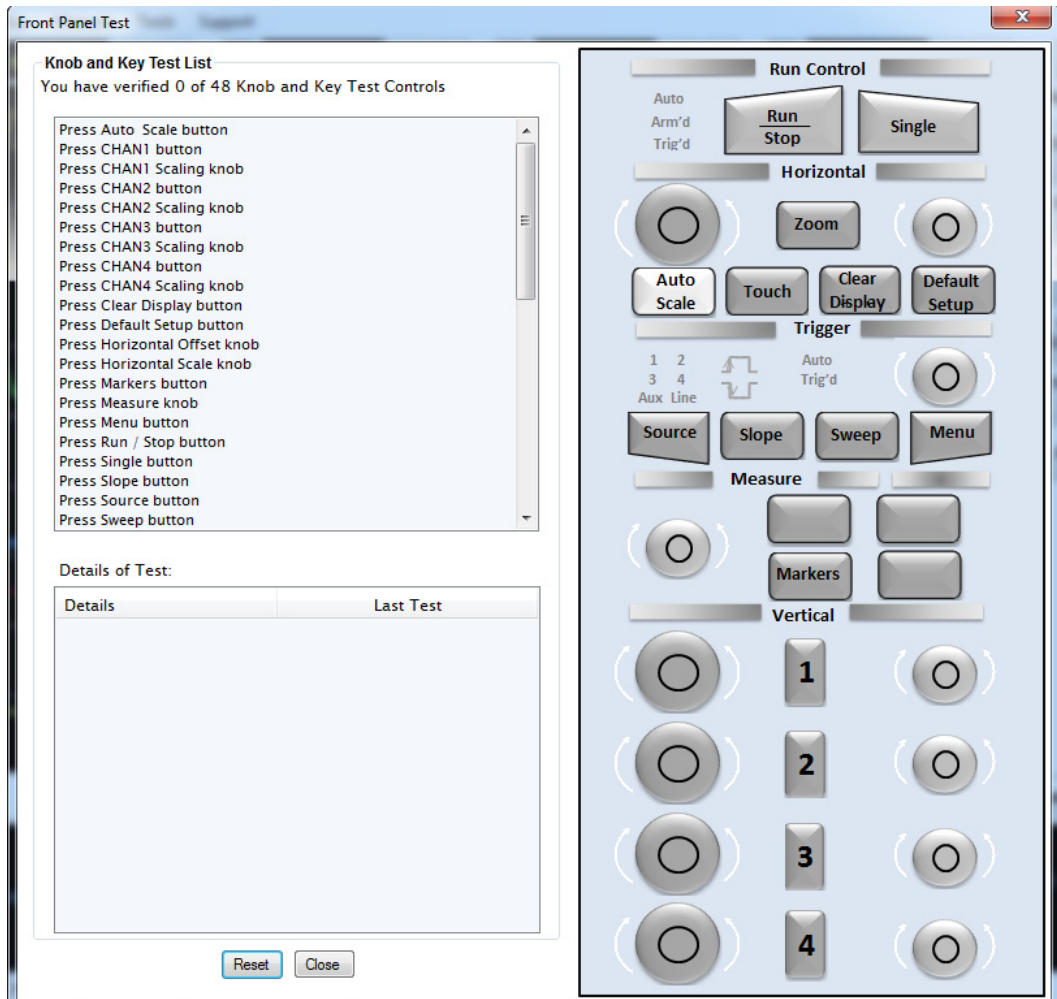

Figure 3-2 Front Panel Test dialog
- 2 The Front Panel Test dialog is displayed as shown in Figure 3-2.